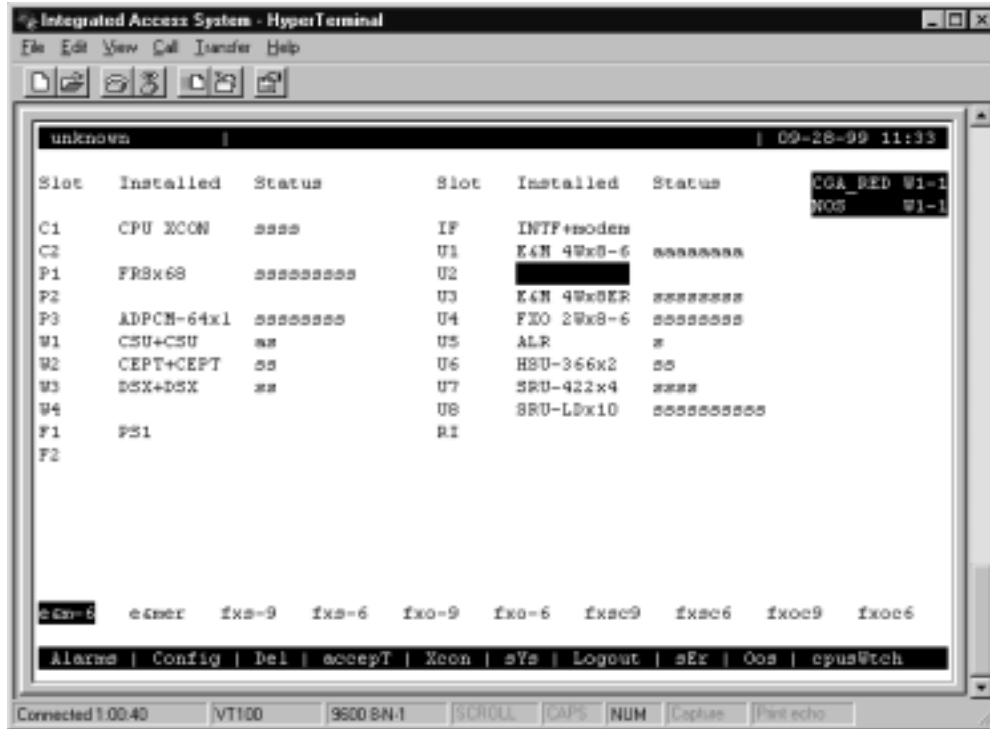

Figure 4-30. Typical Card Slot and Type Selection
2. Place the cursor on the first user card slot that will have a card. In Figure 4-30, slots U5 through U8 will be assigned to 30 time slots on the E1 WAN port.
4. Select the type of voice card from the types listed above the bottom line of the screen, as shown in Figure 4-30. In that screen, **e&m-6** is chosen as the card type (E&M, 600 ohms).